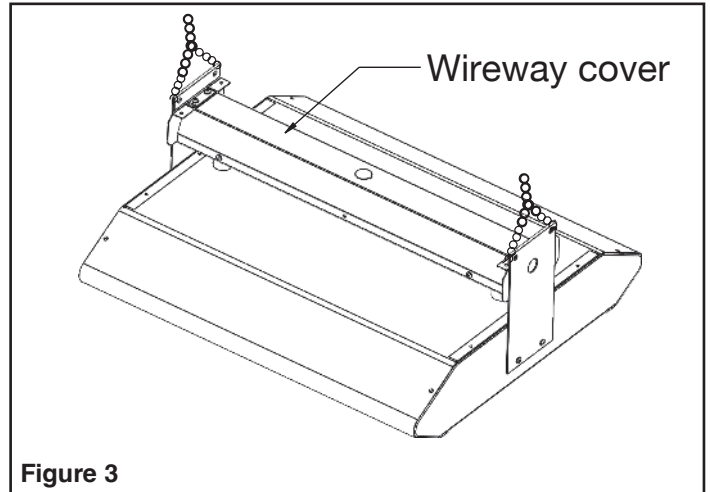

Figure 3
Refer to Figure 3 and proceed as follows. Conduit, connectors, chain loops, and hooks are supplied by others in the following instructions.
2. Attach loop chains (not furnished) on each end of mounting bracket as shown in Figure 3.
4. Remove screws (see Figure 3) from front of wireway cover and allow heater to rotate down for wiring.